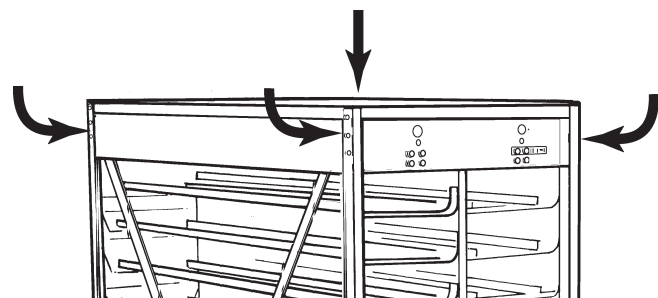

Figure 23: Tightening the Top Frame to the Side Frames
Step 19: Tighten the side frames to the top frame in all four corners as in Figure 23.